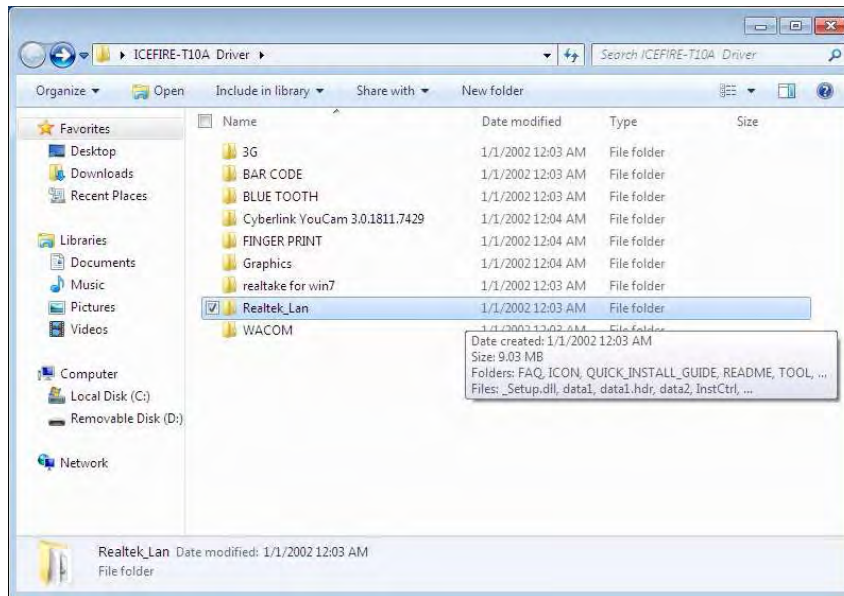

Figure 4-3: Realtek LAN Driver Location
Step 1: Select **Realtek_Lan** from the list in Figure 4-3.
Step 1: Select **realtake for win7** from the list in Figure 4-3.
Step 1: Select **FINGER PRINT** from the list in Figure 4-3.
Step 1: Select **BAR CODE** from the list in Figure 4-3.
- Step 2:** Select **BTW_6.2.0.9600_vista_w7_20090721** from the **BLUE TOOTH** folder as shown in Figure 4-3.